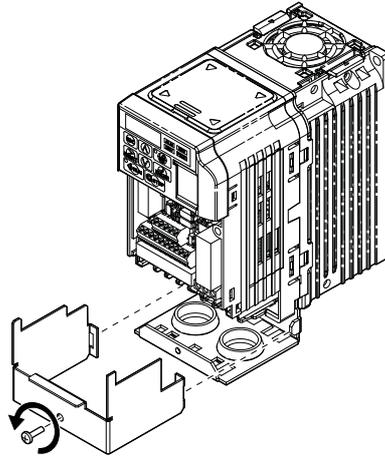
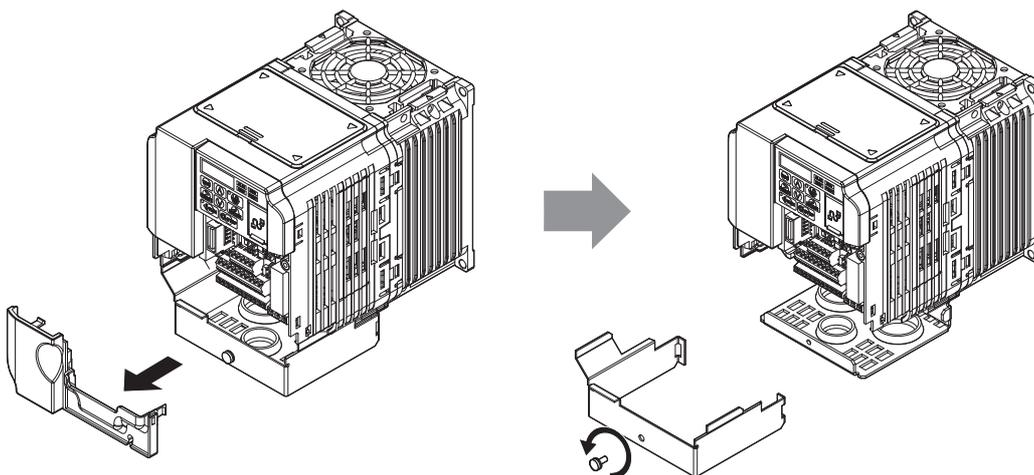

Figure 8 Remove the NEMA Type 1 Terminal Cover (CIMR-V□BA0001F to BA0003F, 2A0001F to 2A0006F)
Figure 9 Remove the Terminal Cover on an IP20/NEMA Type 1 Drive (Models CIMR-V□BA0006F to BA0018F; 2A0008F to 2A0069F; 4A0001F to 4A0038F)
6. For IP20/NEMA Type 1 enclosure models CIMR-V□□□A□□□□□F, loosen the screw on the front of the NEMA Type 1 terminal cover and remove it from the drive. Refer to Figure 8 for details. Refer to Figure 9 for drive models CIMR-V□BA0006F to BA0018F, 2A0010F to 2A0069F, and 4A0001F to 4A0038F, which require removing the plastic terminal cover prior to removing the NEMA Type 1 terminal cover.